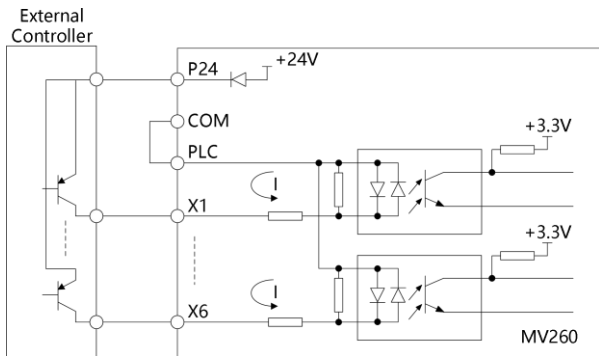

Fig.3-14 The drain connecting mode when using the internal +24V power supply of the drive
② When the internal +24V power supply is used and the external controller is the PNP common emitter output (Note: be sure to remove the short circuit plate between the user terminal PLC and P24 first, then connect it between PLC and COM terminals firmly), the wiring mode is as shown in Fig.3-14.